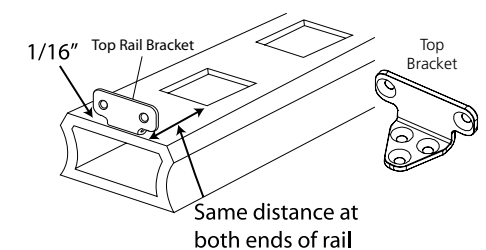

Figure 3
6. Center the "L" wing bracket on the underside of the top rail (Fig. 3). Inset the "L" wing bracket 1/16" from the end of the rail. Mark the three hole locations on the rail. Pre-drill 1/8" hole at desired locations. Repeat for opposite end.
12. Center the hinged bracket on the underside of the top rail (refer to Fig. 3). Inset the hinged bracket 1/16" from the end of the rail. Mark the three hole locations on the rail. Pre-drill 1/8" hole at desired locations. Repeat for opposite end. Secure the Hinged bracket to the top rail using three #12 x 3/4" long screws. Repeat for opposite end. **DO NOT OVERTIGHTEN SCREWS.**